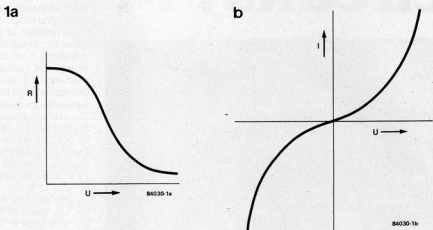

Figure 2. Plotting voltage and current on a logarithmic scale enables the determination of β . This is the standard characteristic supplied by the manufacturer.
- β (see figure 2). This constant is smallest for zinc oxide varistors, which means that even a small increase in voltage causes a very large increase in current.